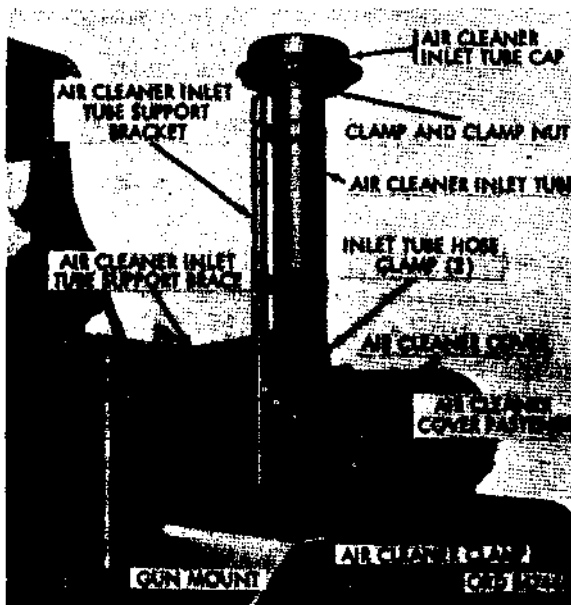

Figure 655. Air cleaner extension installed - diesel
507. Installation of Air Cleaner Extension (Fig. 655)
(a) Unclasp the three air cleaner cover fasteners (fig. 655) on the air cleaner, located on the right front fender of the vehicle. Twist cover upwards one-third of a turn, moving cover from indicated normal position to fording position as indicated on air cleaner.
(2) Install air cleaner inlet tube (fig. 654). Push the metal air cleaner inlet tube (fig. 655) inside the rubber air cleaner inlet tube hose and secure the metal
(a) Loosen the two air cleaner clamps (fig. 655) one on each side of the air cleaner cover, so that the air cleaner inlet tube support bracket can slide under the air cleaner clamps mounted on the fender. Tighten the clamp nuts.
(5) Install air cleaner inlet tube support brace (fig. 655). Bolt one end of the support brace (fig. 655) to the gun mount bracket and extend the brace out so that it touches lower clamp of support bracket and bolt this end of the brace to the clamp. Now tighten both clamps.